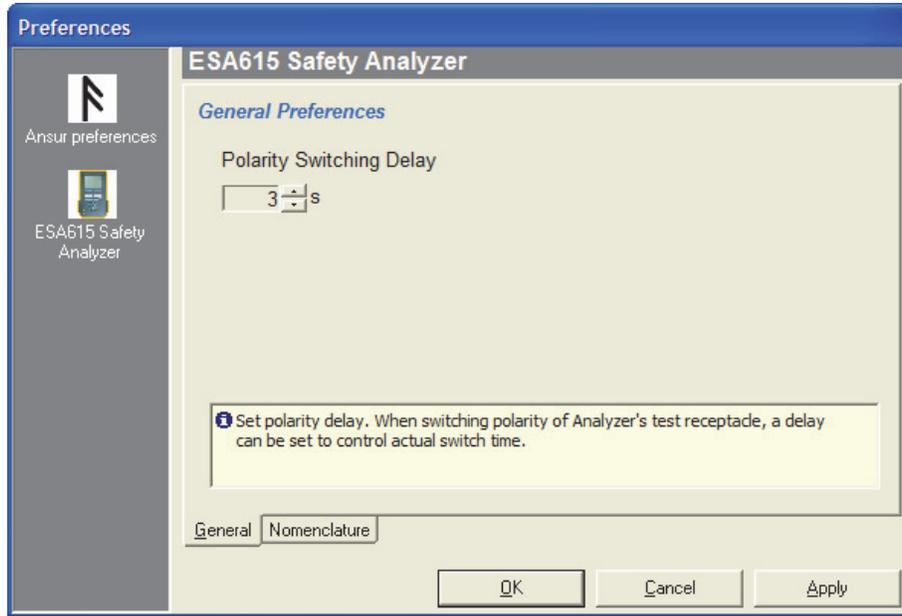

Figure 2-6. Polarity Switching Delay Window
3. Click on the **General** tab to show the general page of the preferences window shown in Figure 2-6.